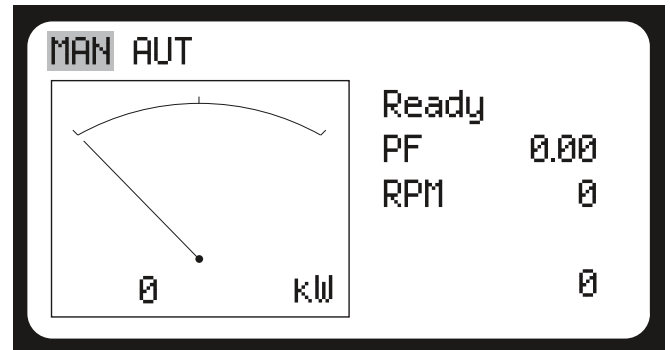

Figure 3-1. Ready/Manual Screen
1. Move control ON/OFF to CONTROL ON (I).
3. See Figure 3-1. The LCD will indicate MAN mode and Ready. The Ready/Manual LED will be lit.